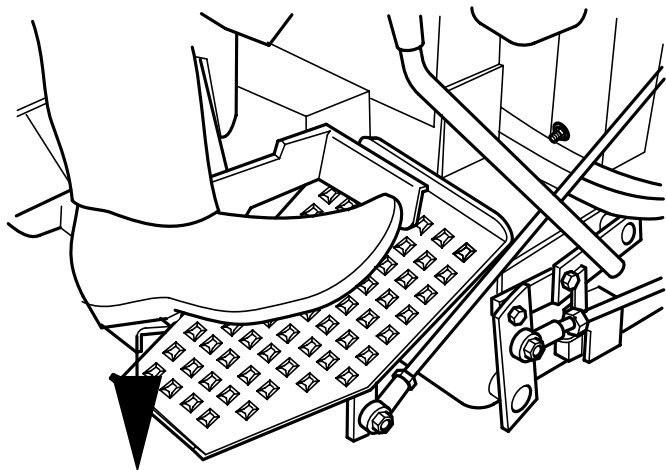

**Figure 4-6 Forward - Depress Toe End of Pedal**
1. To travel forward, depress the right foot pedal at the toe. (See Figure 4-6). The further the pedal is depressed the faster the mower will travel forward.